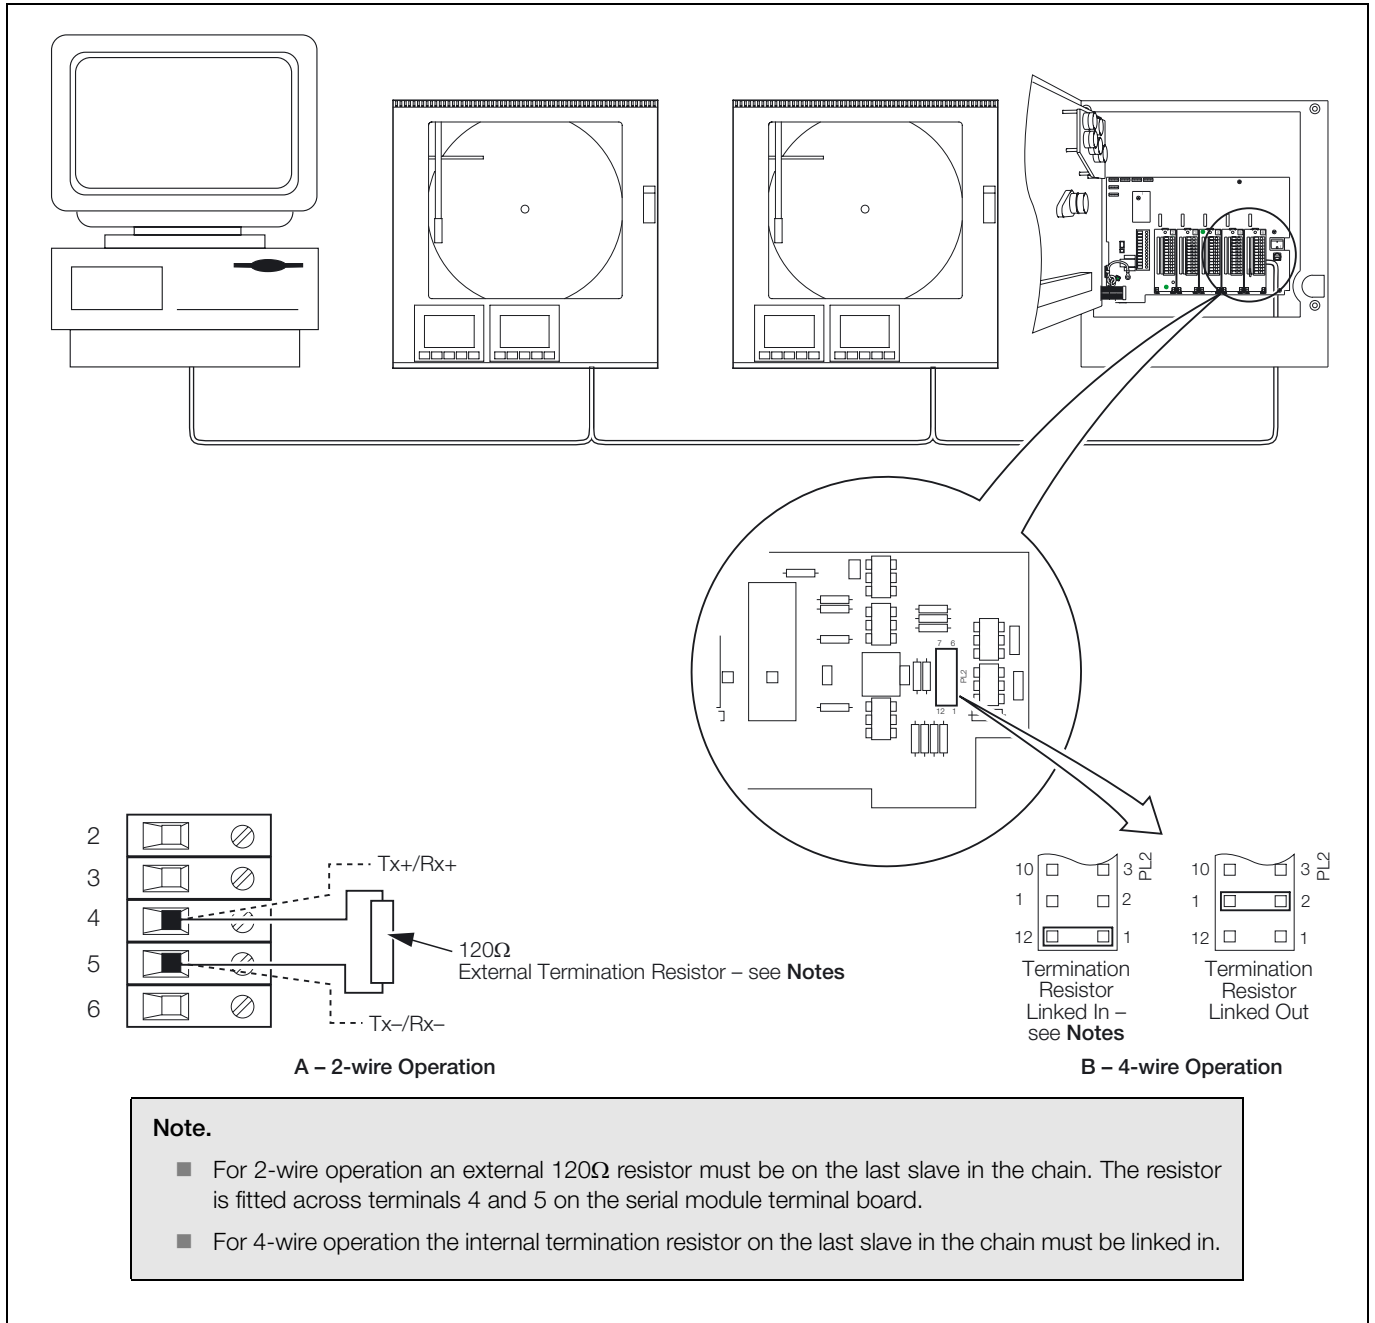

Fig. 2.3 Slave Termination Resistors
2.4 Termination Resistors – Fig. 2.3
For long transmission lines, termination resistors are required on the last slave in the chain and the host computer/computer terminal – see Fig. 2.3. Under normal operating conditions the resistors are required at the receive inputs only. For 2-wire operation the slave termination resistor is fitted to the serial module terminal board – see Fig. 2.3A. For 4-wire operation the slave termination resistor is selected using plug-in links on the serial module – see Fig. 2.3B.